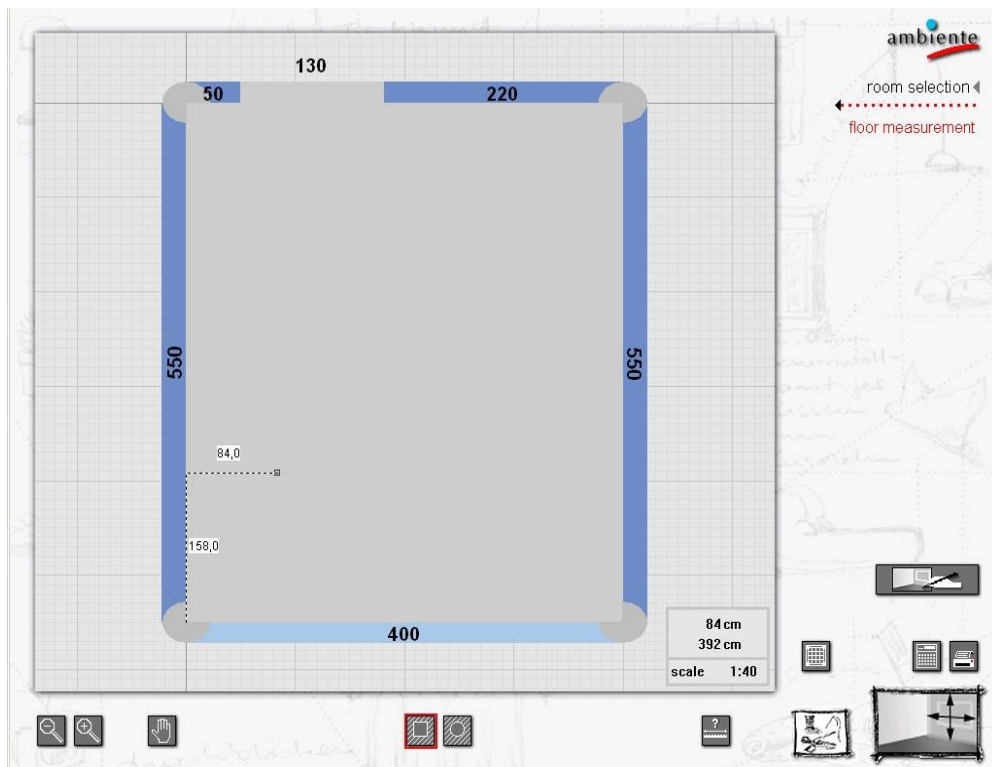

fig. 8-12 Drawing of subareas – measure reference lines
- The reference lines are drawn upright towards the two nearest walls (fig. 8-12). With every mouseclick a new corner point for the subarea is set.